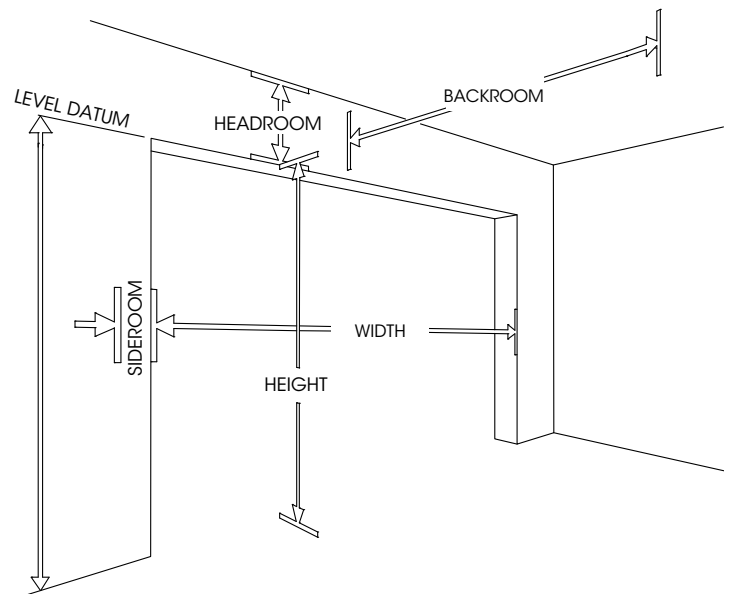

Fig: 1.4.1
**opening width** - As the door overlaps each side by 30mm or more, the door should be 60mm wider than the opening. A wider door can be fitted as long as additional sideroom and fixing is available. (Fig 1.4.1)
**level datum** - use a water or lazer level to mark a datum line on both sides of the lintel as shown. Fig 1.4.1.